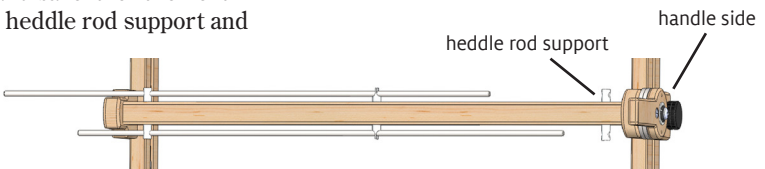

FIGURE 5: REMOVE ROD SUPPORT ON HANDLE SIDE
5. Set the shedding device handle in neutral position, with the handle parallel to the floor. Remove the O-rings from the heddle rods and slide both rods out of the heddle rod supports on the handle side (Figure 5). From the back of the loom, remove the screw holding this heddle rod support in place and save it for the next step. Remove the heddle rod support and store it.